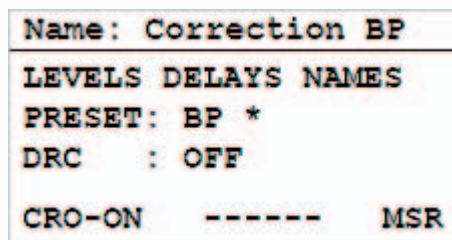
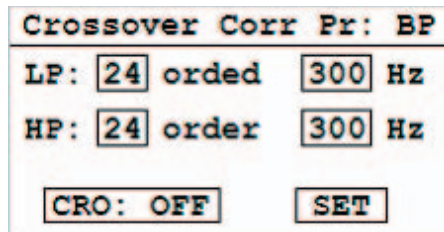
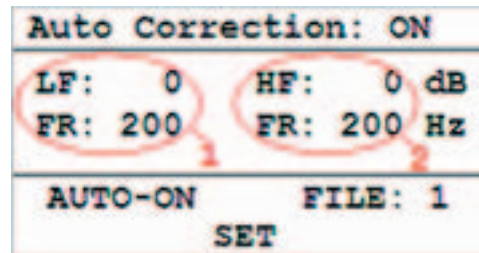

Fig. 3. RCS-DRC screen.
Fig. 4. Crossover menu. CRO: OFF indicates that crossover filters are disabled
Fig. 5 Auto Correction screen.
To disable crossover filters enter the **RCS-DRC** menu and select the CRO-ON(OFF) option in Fig.3 to enter Crossover screen Fig. 4.
Crossover filters can be turned OFF from the front panel crossover menu (Fig. 4). Place the screen cursor over the **CRO: ON** menu option and then press the enter button (click) until it displays **CRO: OFF**, and then click on **SET** option.. Please note that any change made on this screen does not take effect until you click on the **SET** option.
Click on the MENU button to go back to the DRC-RCS screen, Fig. 3.
After the measurements are completed, click on the **EXIT** option and then click on the **MENU** button to go back to the **DRC-RCS** screen (Fig. 3). At any time during the measurement process you can click on the **CANCEL** option to cancel the process. After the measurement is completed or the measurement was canceled, the **CANCEL** option changes its name to **EXIT**.
4. Enable automatic room correction. In the **DRC-RCS** screen (Fig. 3), select correction preset 1. Make sure that crossover filters are enabled and proper crossover frequency is selected. Crossover filters can be adjusted at any time even after you enable the automatic feature. Click on the **AUTO-OFF** menu option to enter the Auto Correction screen (Fig. 5). Note that in bypass mode the **AUTO-OFF(ON)** menu option is not displayed.